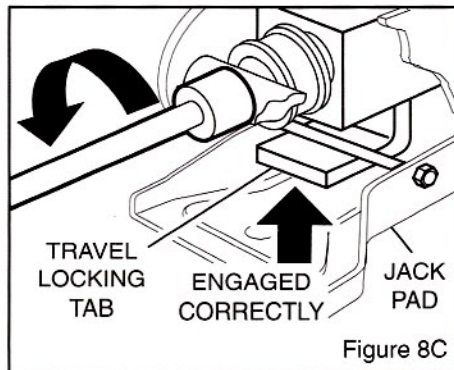

Figure 8C
STEP 3. For each jack turn the crank handle in a counter-clockwise direction until it stops and snugs up into the locking travel position. See figure 8c.